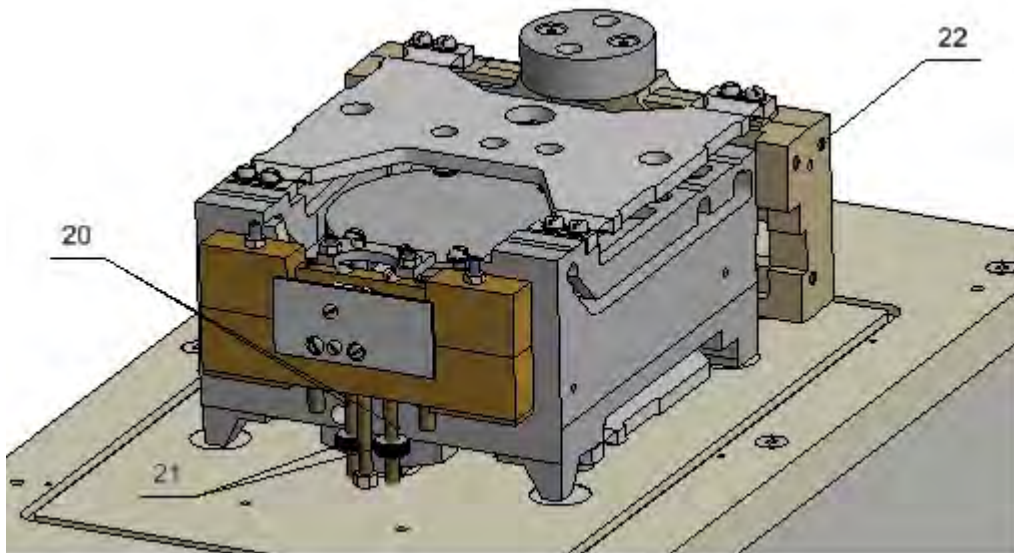

Fig.8
15. Unlock comparator's mechanism (22): undo two knobs (21) equipped with interlocking (20). (Fig.8)